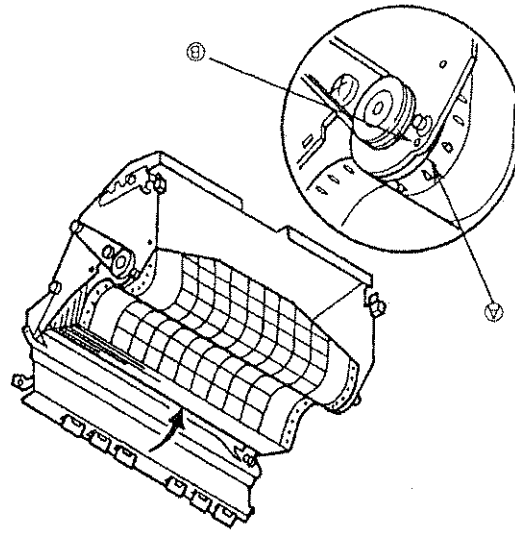

Figure 6.1.5
- 6) To engage the chart drive holes with the sprockets correctly, install the chart paper so that the mark "-" [A] in Figure 6.1.5] appearing every 5 cm meets a groove [B] in Figure 6.1.5].